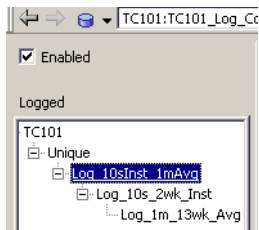

Figure 318. Activating/Deactivating a Property Log
2. Use the **Enabled** check box to activate (checked) or deactivate (unchecked) all logs in the property log, Figure 318.